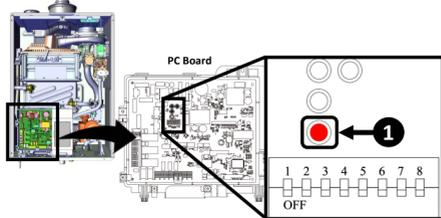

Fig. 5. Red Button on PCB Board
- To access the parameter settings, press and hold the red button on the PCB Board for five seconds (Fig. 5).